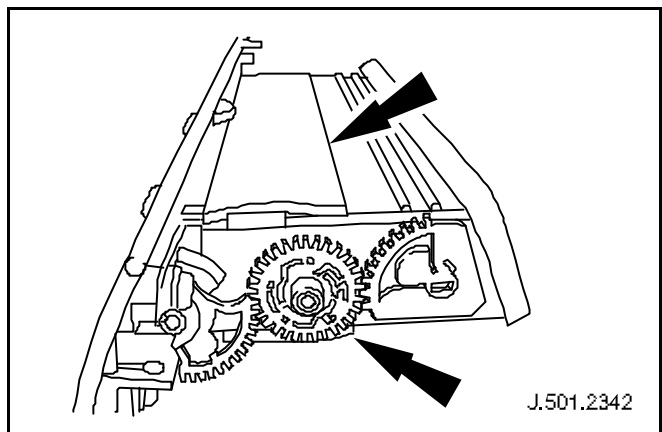

Fig. 2
1. Check the position of the center clip to engage fully into the housing. 2. Apply the foam pads to the top and bottom of the housing. (See Fig. 2)